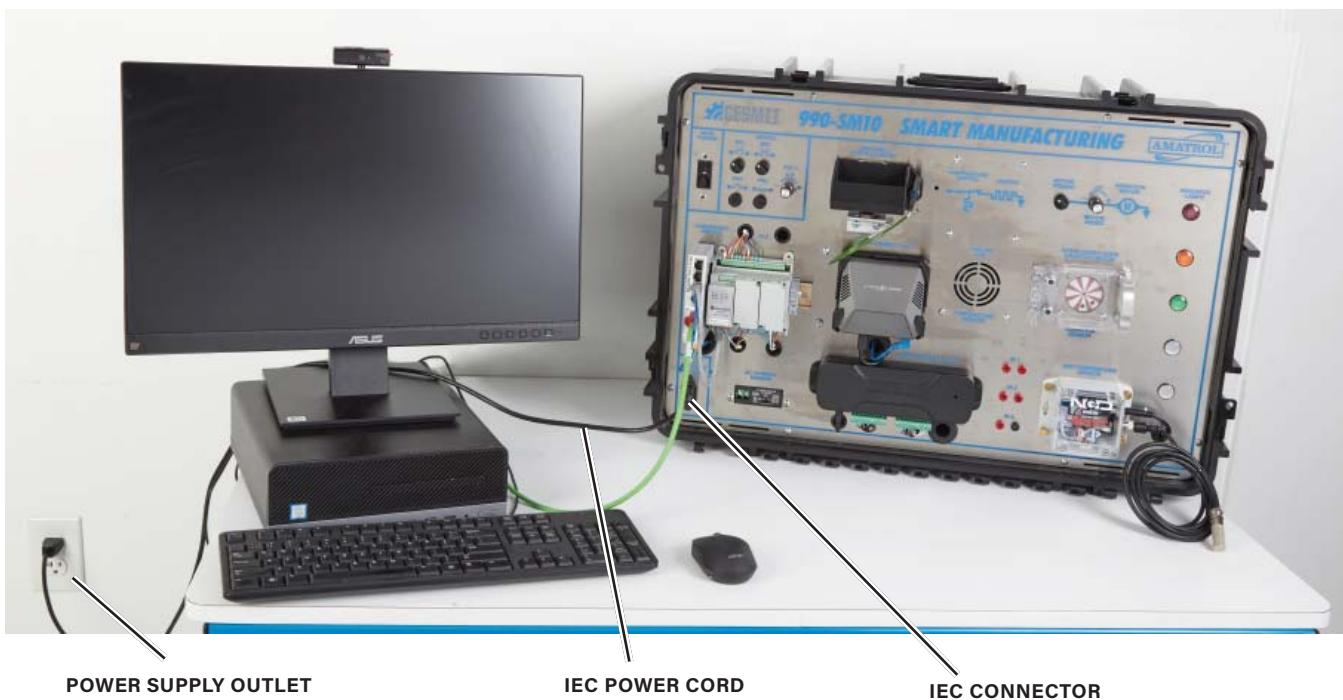

Figure 2-2. IEC Power Cord Plugged into IEC Connector and Power Supply Outlet
- Connect the IEC power cord to the IEC connector on the workstation and an AC wall outlet, as shown in figure 2-2.